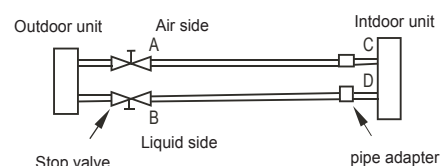
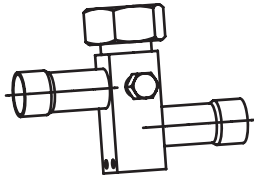

Fig. 6-2
Fig. 6-3
- Use the refrigerant in the outdoor unit to expel air (see Fig. 6-2 and Fig. 6-3)
- Use refrigerant tank to expel air (see Fig. 6-2 and Fig. 6-3)